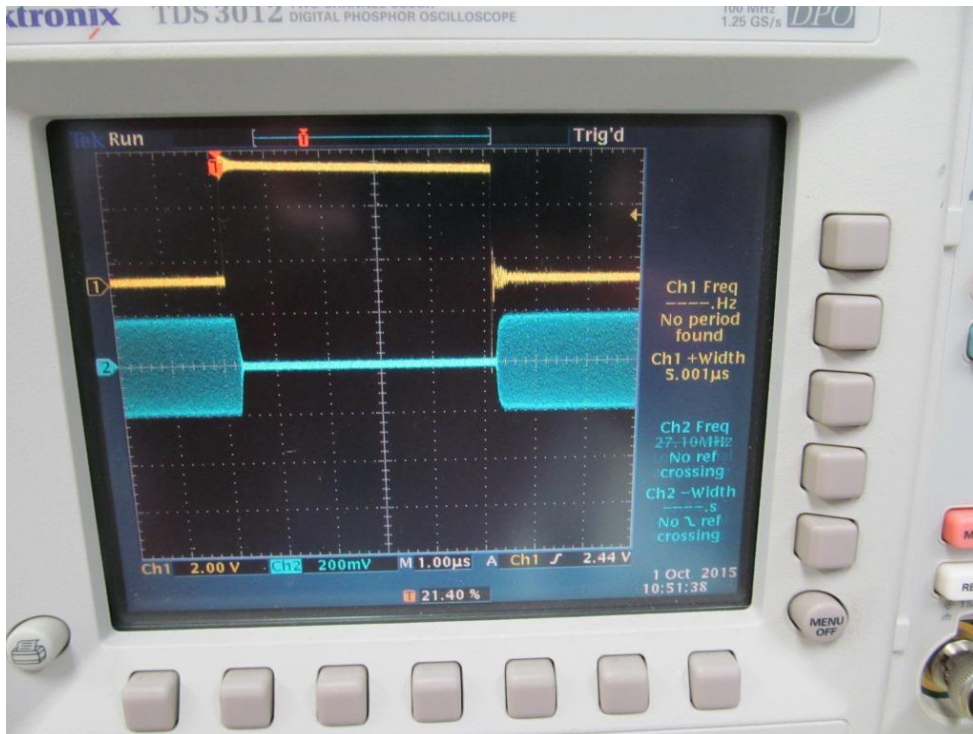

Figure 1 Trigger and RF Waveform
5. Push the Emission button to start the eDrive generating QSW pulses. Verify that you can see the Q Switch window as shown in Figure 1 before proceeding.